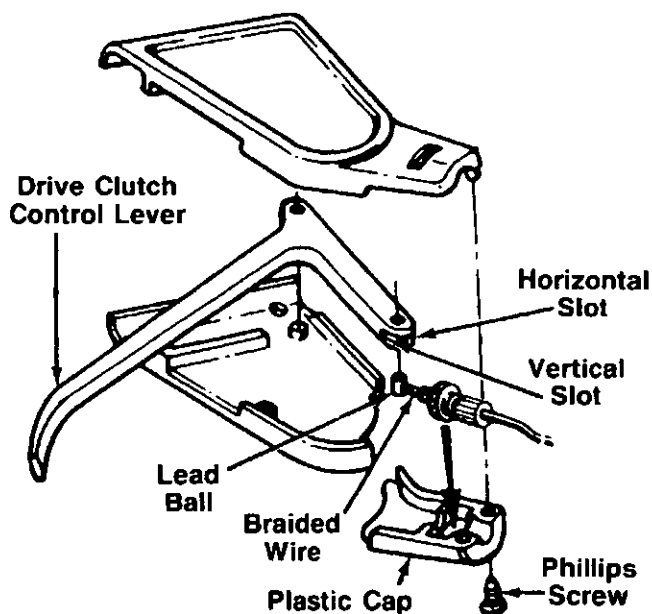

FIGURE 7.
← See figure 7.
3. Make certain the adjustment wheel is threaded on to the cable as far as possible as shown in figure 7. Place the adjustment wheel into the clutch control housing.
4. Secure the plastic cap to the clutch control housing using the two Phillips head screws. See figure 7.